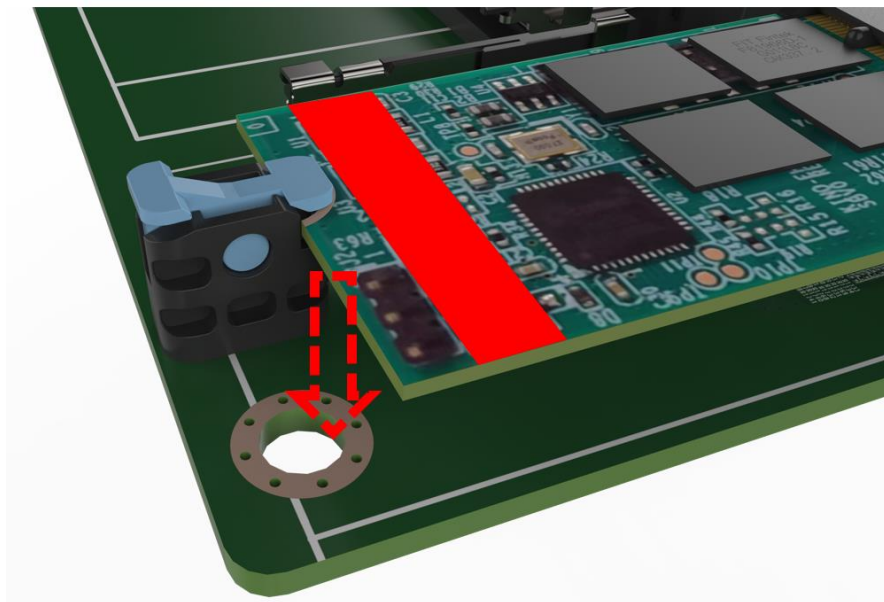

Figure 3-6: Securing the M.2 card
Step 5: Secure the M.2 card. Press down the M.2 card to fix it (Figure 3-6).